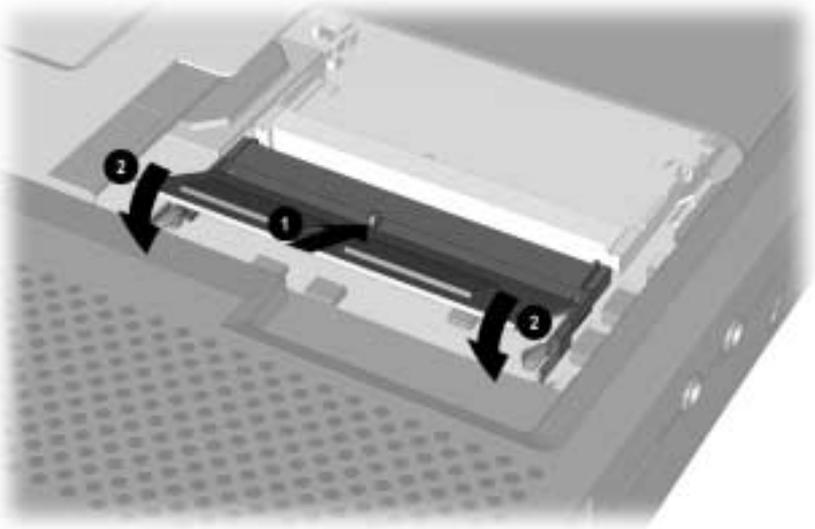

Figure 5-11. *Installing a Memory Expansion Board*
1. Insert the memory expansion board into an empty memory expansion slot at a 45-degree angle **1** (Figure 5-11).